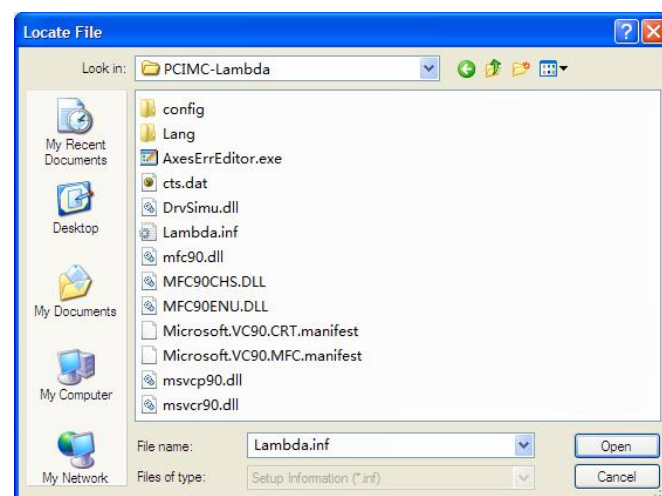

Fig. 2-11 Select the hardware drive
- 5) Click [Browse] button in the pop-up dialog titled "Install From Disk". In the pop up dialog box, select the target hardware drive in the list, Choose the target file "Lambda.inf" under directory "C:\Program Files\Naiky\PCIMC-Lambda", see Fig. 2-11.